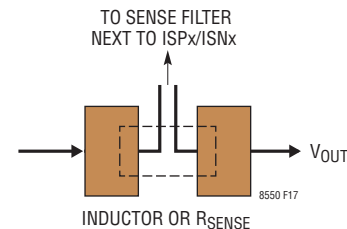

Figure 17. Sense Lines Placement for DCR Sensing or Resistor Sensing
**Low Value Resistor Current Sensing:** A typical  $R_{SENSE}$  inductor current sensing is shown in Figure 16a. The filter components ( $R_F$ ,  $C_F$ ) need to be placed near the LT8550.  $R_F$  values greater than 100Ω should be avoided as this may increase offset voltage. The filter time constant ( $R_F \cdot C_F$ ) should be no more than 30nS. The positive and negative sense traces need to be routed as a differential pair close together and Kelvin (4-wire) connected underneath the sense resistor as shown in Figure 17.
For DCR current sensing, the sense lines should also run close together to a Kelvin connection underneath the inductor as shown in Figure 17. To prevent noise from coupling into the sensitive small-signal nodes, resistor R1 should be placed close to the inductor, while R2 and C are placed close to the LT8550 as shown in Figure 16b.